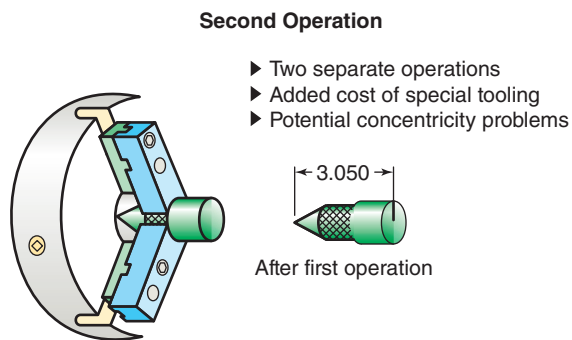

Figure 16-2 Option 1—The second of two setups.
1. Sawing Blanks to Length (Fig. 16-2)
1. Cut to 3.100 in. long. We'll first turn the point and knurled section, leaving a small shoulder between the bar stock and 1.437-in. diameter. This could be done in a standard three-jaw chuck. Then reverse it by pushing the shoulder against soft jaws (Fig. 16-2). The soft jaws would help ensure concentricity of the second cuts and to not mar the finished knurls. With the temporary shoulder nested against the jaws, it's possible to finish the shape.